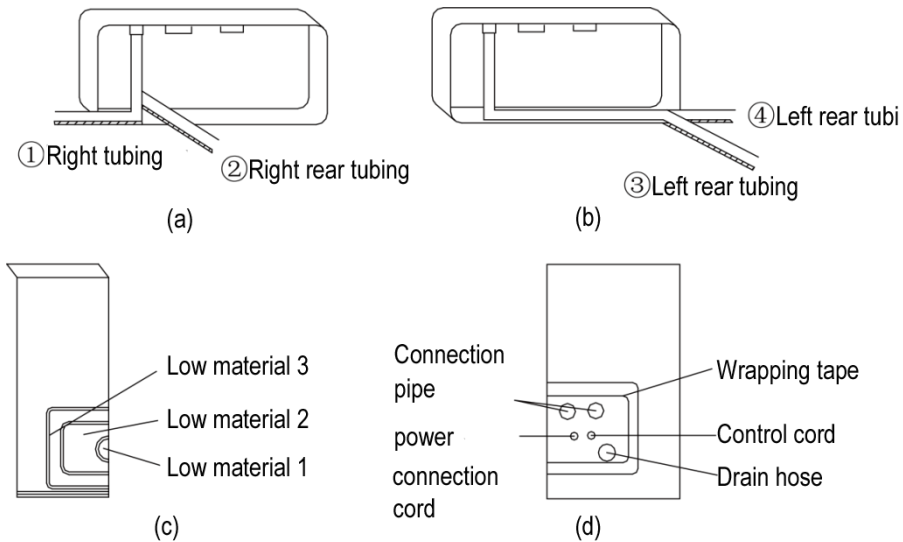

Fig 5.6
- (1) When routing the piping and wiring from the left or right side of the indoor unit, it is necessary to cut off the tailings of the pipe left on the holder of the unit. (Shown in Fig.5.6).
- (2) Let the tubing and cord pass through the piping hole after tied up (refer to Fig .5.6 (d)).
- (3) Hang the claw behind the indoor unit on the pothook on the wall panel, and move the unit left and right to check if the body is firm.
- (4) Guarantee that the installation height of the indoor unit should be 2.5m above the floor.